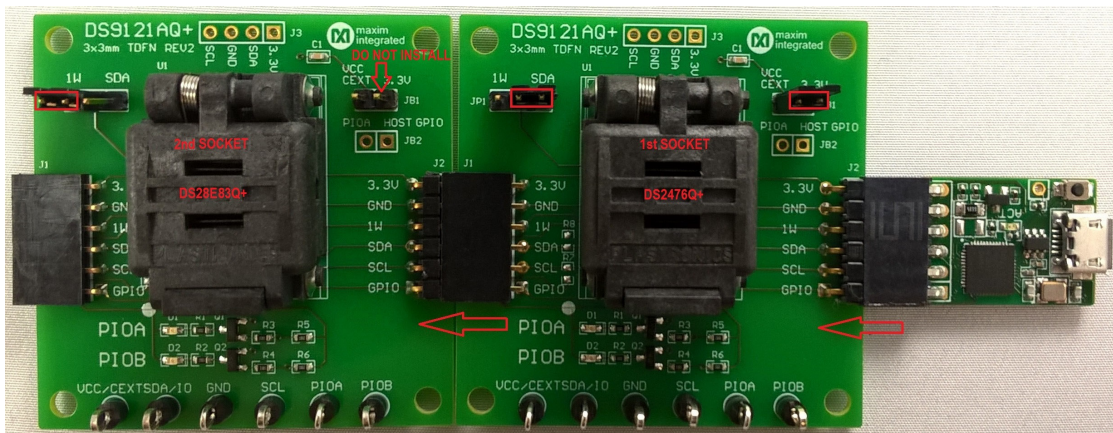

Figure 10. DS9481QA-300# and DS9121AQ
- d) Connect the 1st DS9121AQ J2, 6-pin female socket, into the DS9481P-300#, 6-pin male plug per Figure 10.
- e) Connect the 2nd DS9121AQ J2, 6-pin female socket, into the 1st DS9121AQ J1, 6-pin male plug per Figure 10.
- f) For the 1st DS9121AQ+ socket boards that contains DS2476, configure jumpers JP1 to use SDA and JB1 to use 3.3V per Figure 10.
- g) For the 2nd DS9121AQ+ socket boards that contains DS28E83, configure jumpers JP1 to use 1W and JB1 do not install per Figure 10.